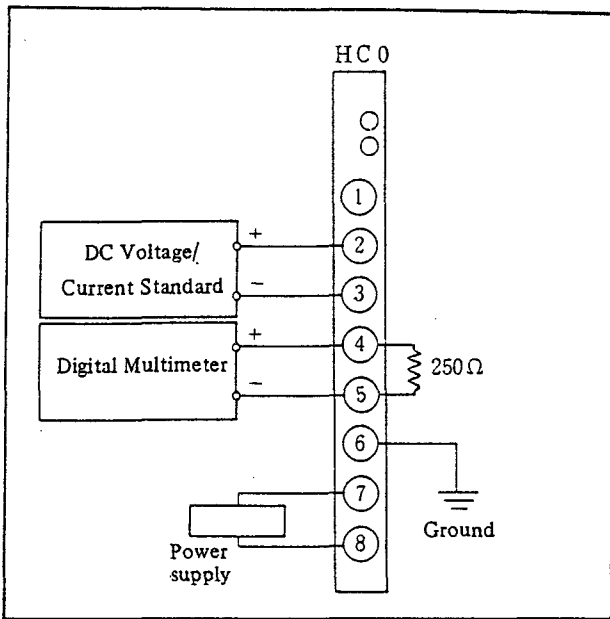

Figure 3. Connection of Calibration Instruments
- (1) Connect each instrument as shown in Figure 3 and warm up for about five minutes.
- (2) Check input/output characteristics